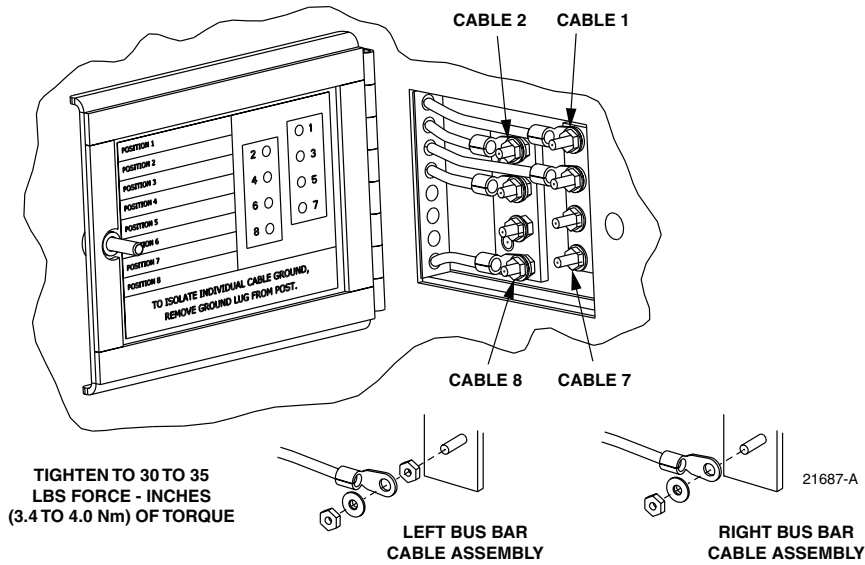

Figure 32. Cable Grounding System - Exterior View
4. Open the grounding system access cover located at the rear side of the cabinet as shown in Figure 32.